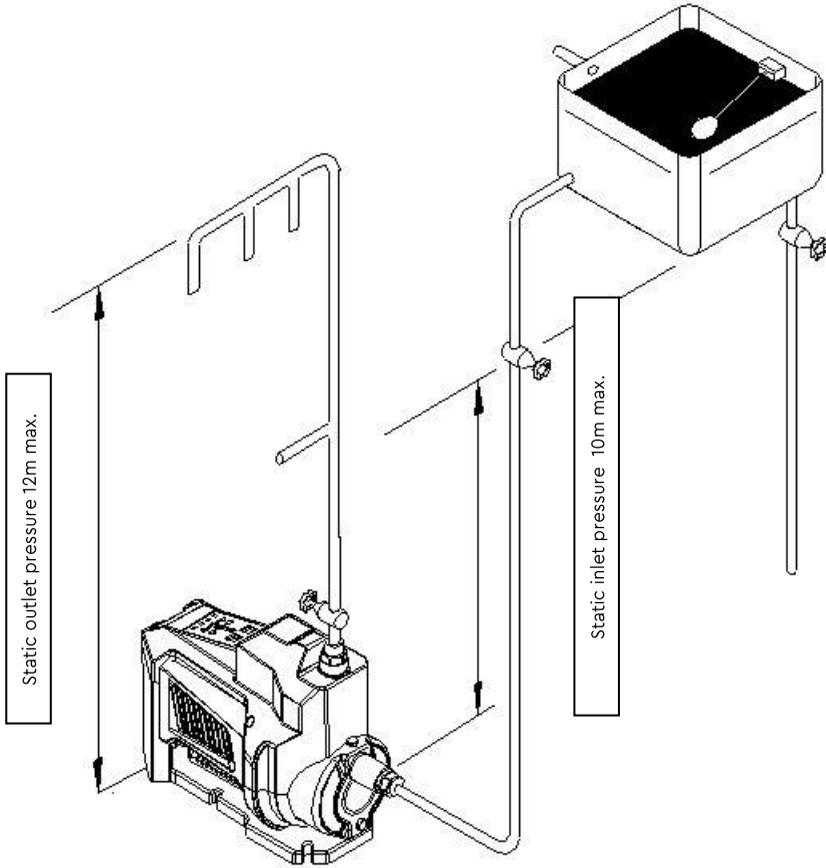

Fig 2.
- 1.6. **Static inlet pressure:** Before deciding where to locate the unit check to ensure the static inlet head between pump and the bottom of the cold water tank (Ref Fig. 2) is at least 1 metre and does not exceed the max inlet head of 10 metres.
- 1.9. **Static outlet pressure:** The static outlet head (Fig 2) must also be within the maximum requirement of 12 metres.